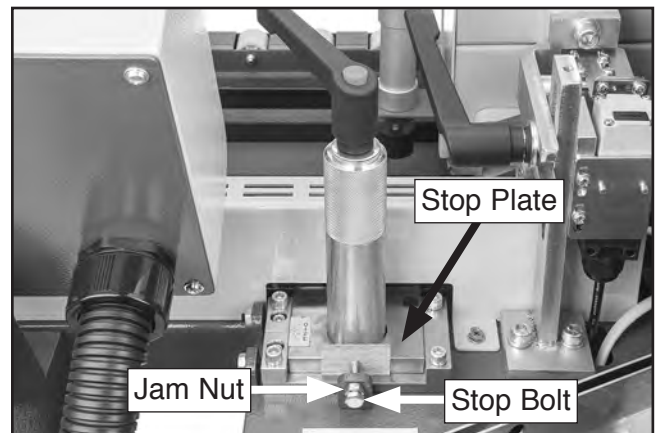

Figure 79. Calibrating infeed fence stop.
4. Loosen jam nut (see **Figure 79**).
5. Loosen stop bolt a few turns (see **Figure 79**).
9. Tighten stop bolt until it contacts stop plate, then tighten jam nut to secure stop bolt. Infeed fence stop is now calibrated (see **Figure 79**).